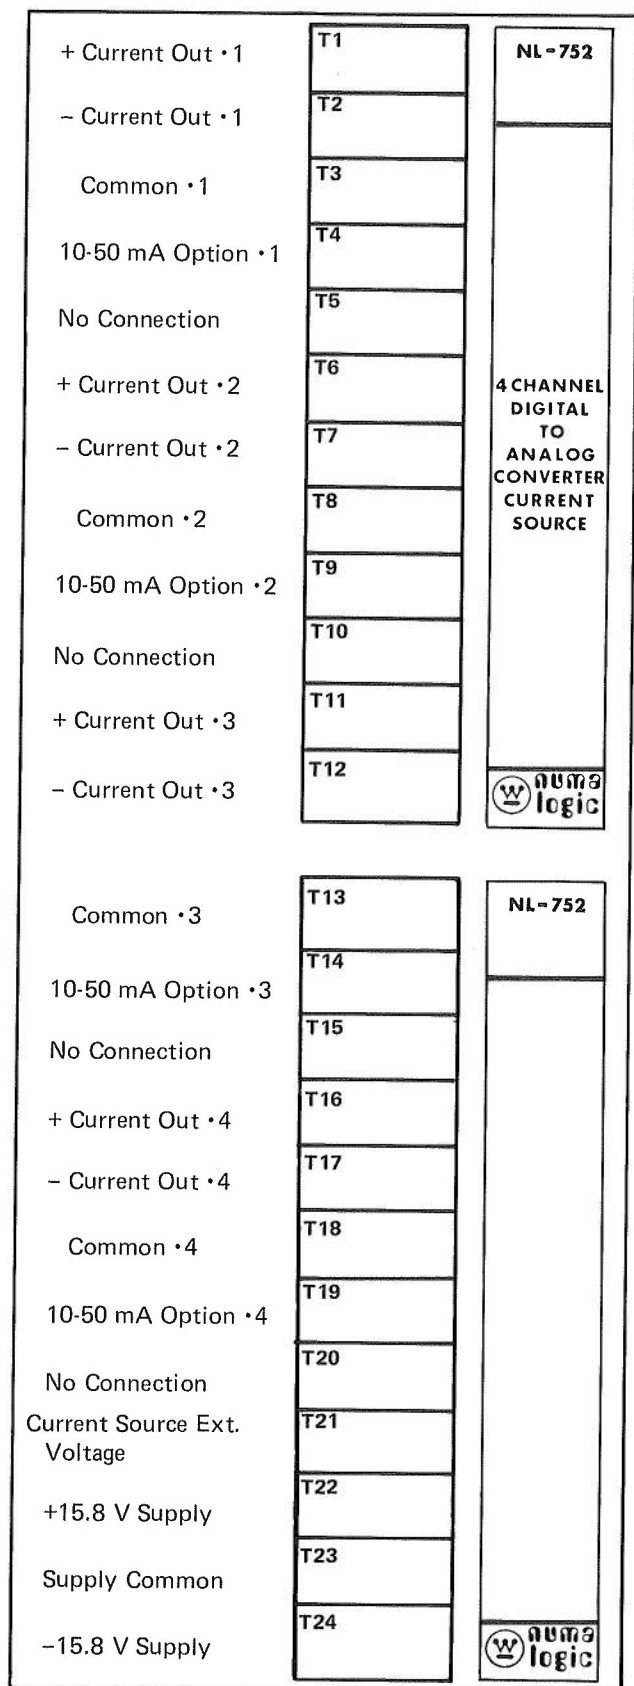
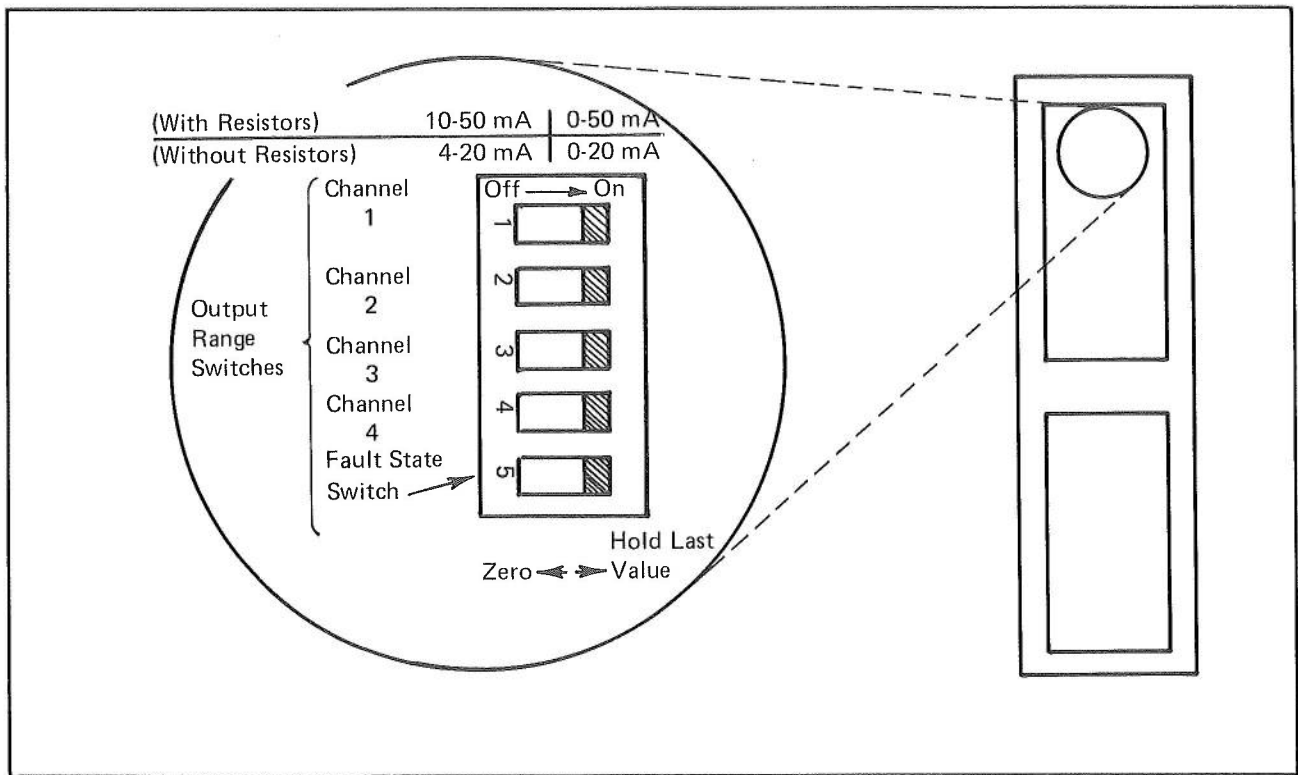
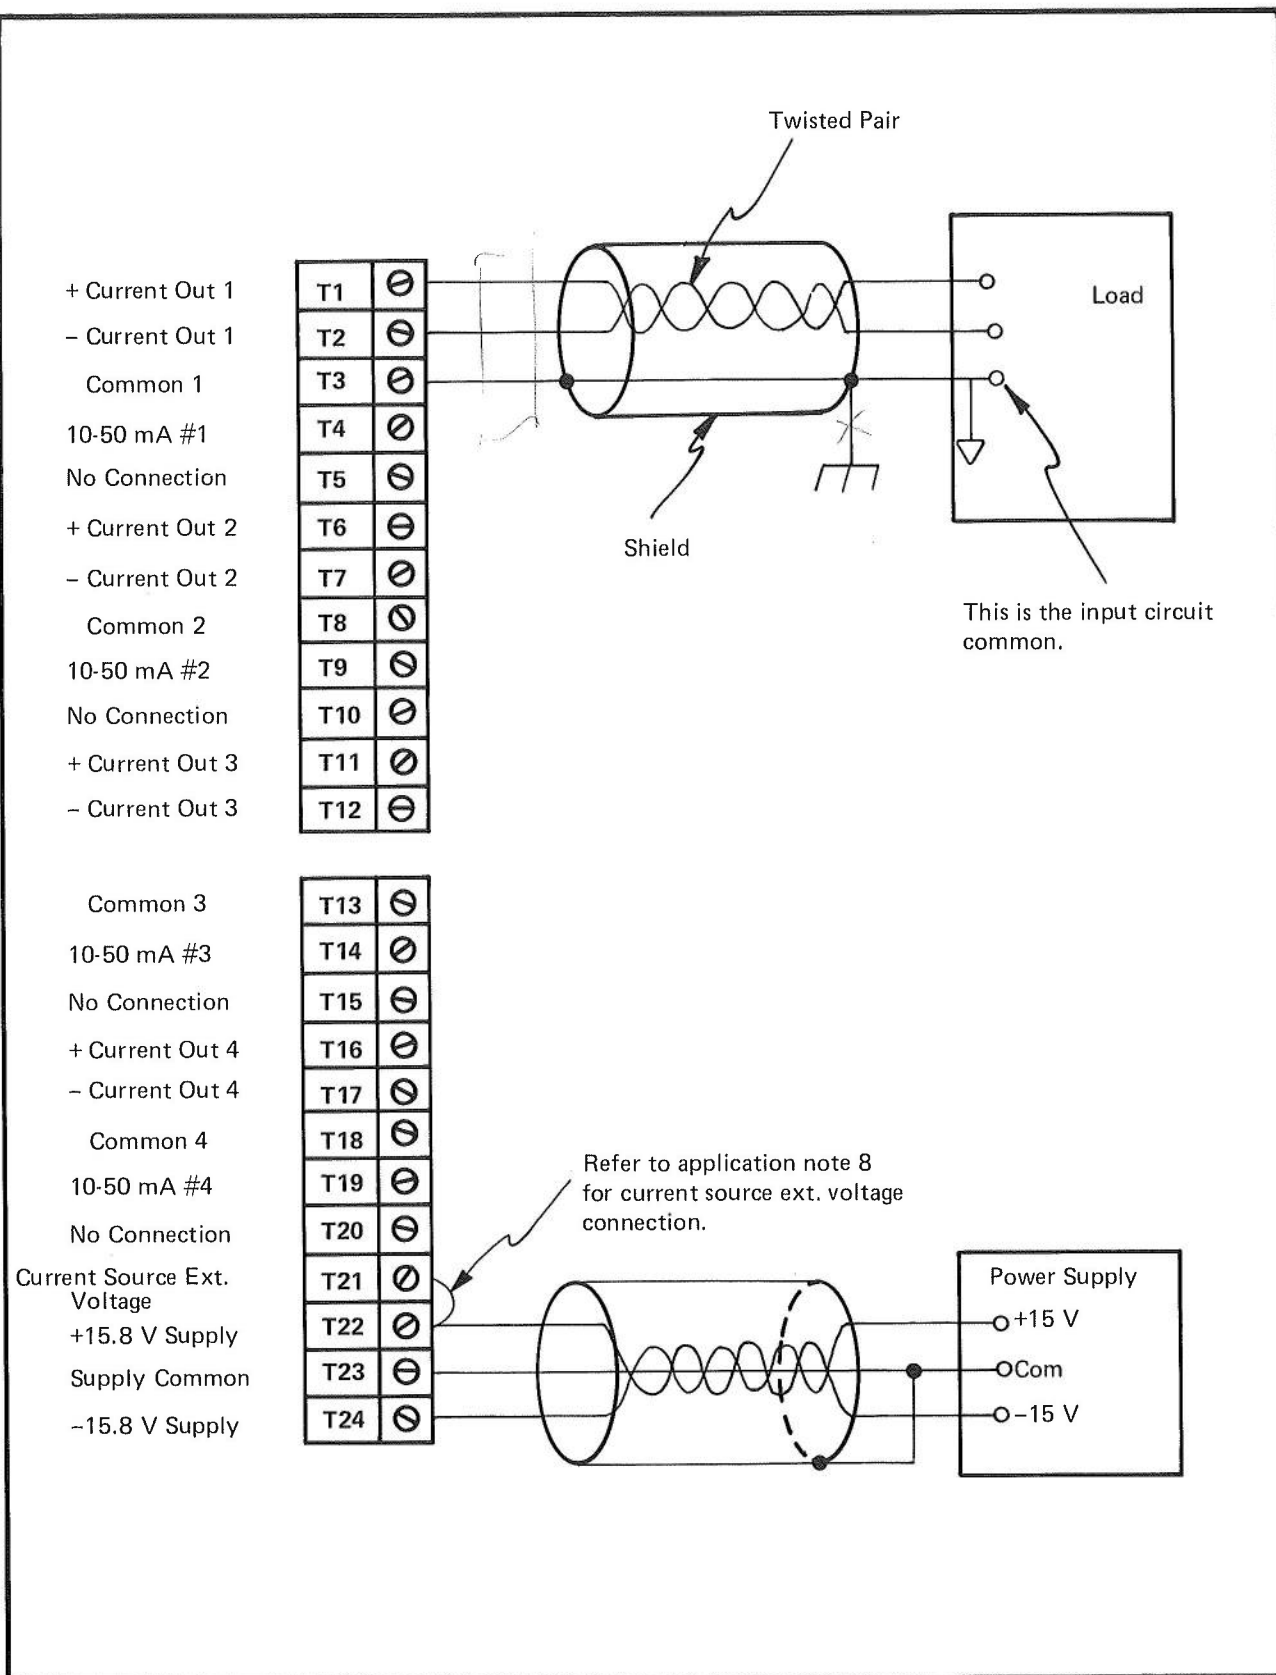
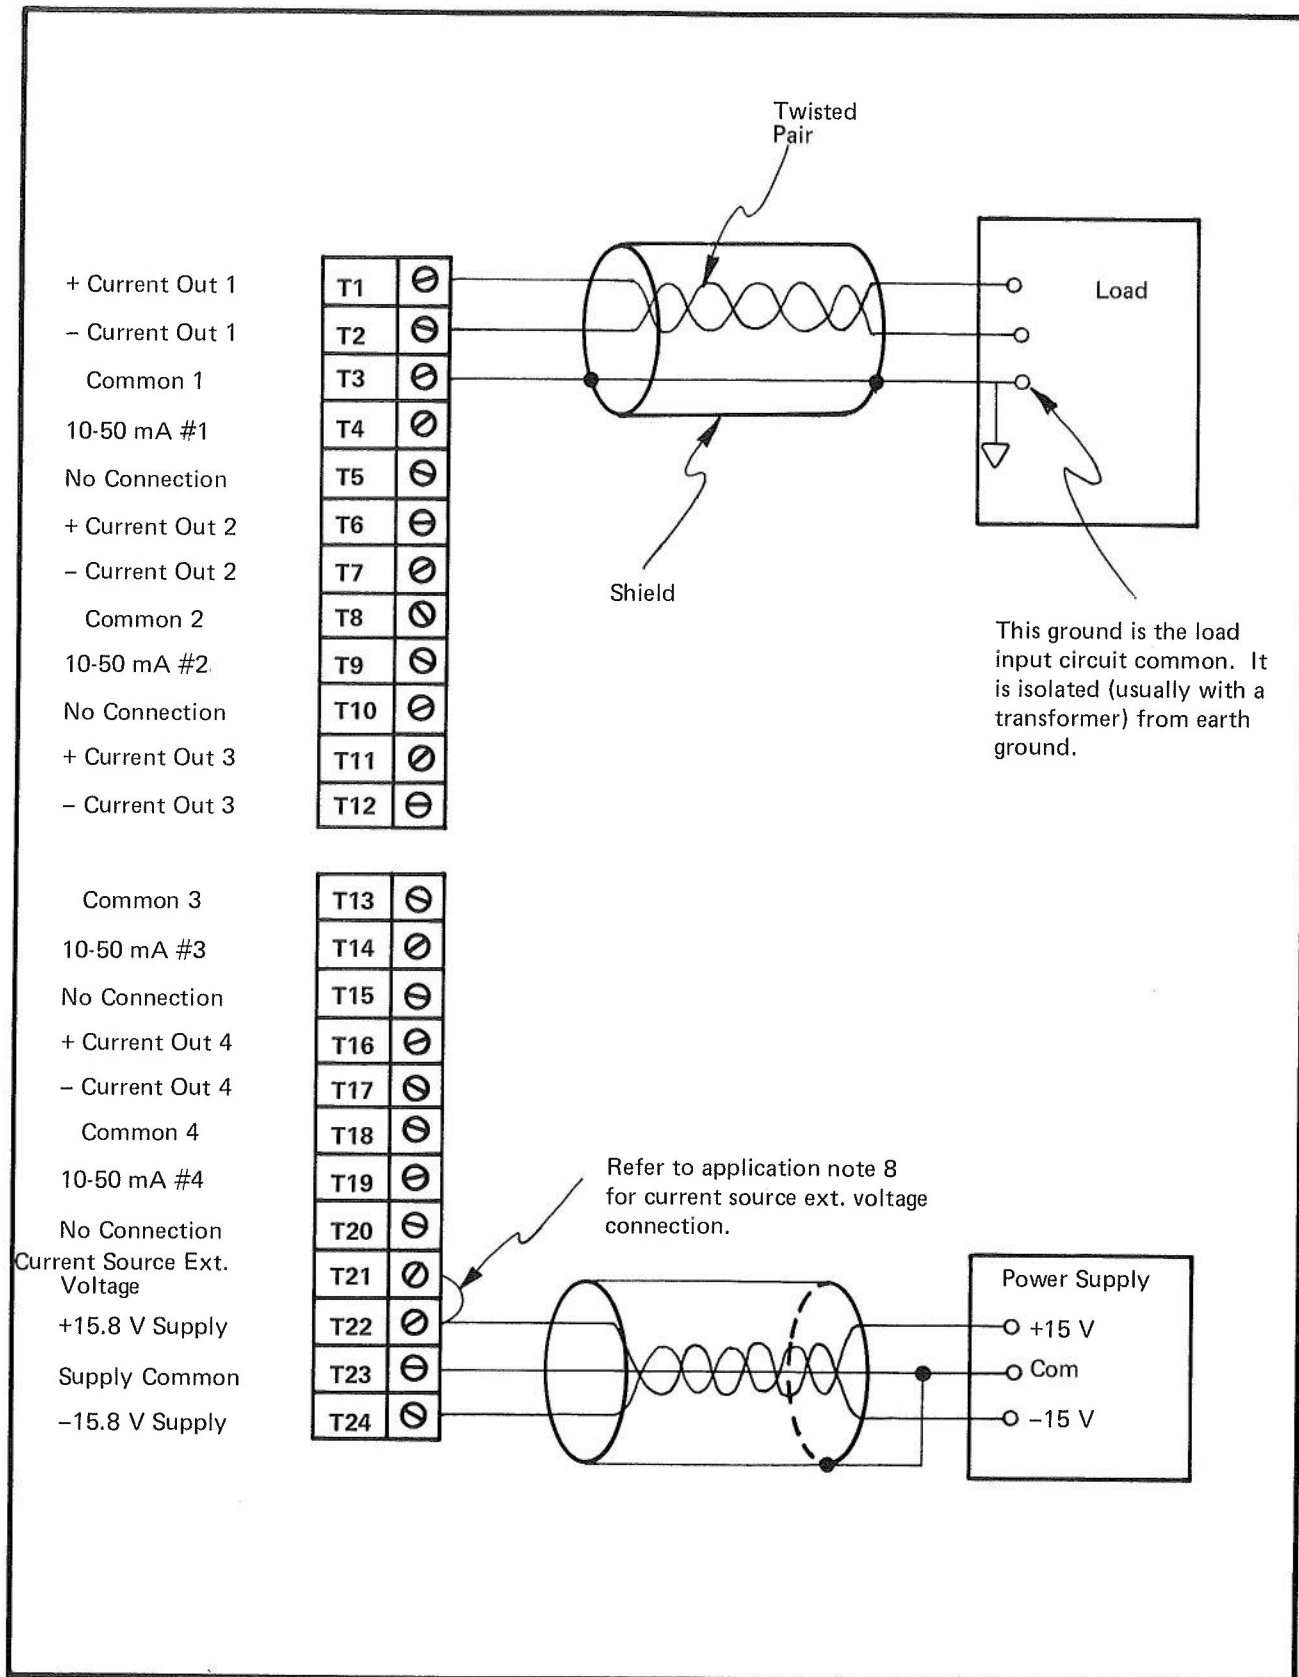

Figure 2 — Terminal Identification
Figure 6 — Current Range Selector Switch
Figure 8. Suggested Shield Wiring (Load Common Connected to Earth)
Figure 9. Alternate Shield Wiring (Load Common Isolated from Earth GND.)
Also supplied with the Module are Terminal Identification Strips, which are to be filled in with wire numbers and applied to the I/O Rack next to the terminals. (See Figure 2.)
Each channel of the Module may be set up to yield one of four current ranges. For each range, the magnitude of the output current is determined by output register bits 0-10 (lower ten bits). Ranges are selected by setting selector switches on the Module and wiring external resistors into the terminal block on the I/O Rack (Figure 2). Remove the top Module Lens to set the Current Range Selector Switches (Figure 6).
Step 2 — Connect the multimeter across the correct + and – output terminals (Figure 2).
Figures 8 through 11 show wiring connections to the NL-752-H Module. Normally, shielding is tied to ground at the cable end away from the Module as shown in Figure 8. If this is not possible, use the alternate wiring schemes in Figures 9, 10, and 11. Module terminals are shown in Figure 2.
Physical Placement — Connect all field wiring to the Vertical I/O Rack's terminals. Follow the typical connection diagrams in Figures 8 through 11. Installing the Module is a simple process: slide it into 2 of 4 Positions on an I/O Rack. To do so, follow these steps:
Physical Placement — Connect all field wiring to the Horizontal I/O Rack's terminals. Follow the typical connection diagrams in Figures 8 through 11. Installing the Module is a simple process: slide it into one of the four or eight Positions on an I/O Rack. To do so, follow these steps:
4. The output of each channel of the Module depends on the value it receives from its assigned output register (OR). If the Processor loses its AC power, the value present in the OR is saved. However, if the external supply for the Module is wired to the same AC source as the Processor, Module output will go to zero. If the external supply is on a separate AC supply (different from the Processor supply), the Module's Fault State Switch settings (Figure 6) determine the output state: the Module will maintain its outputs at the value present when the Processor loses power if the switch is set to ON; the outputs will go to zero if the switch is OFF. The last state/zero state settings also apply in the event of a Processor fault.